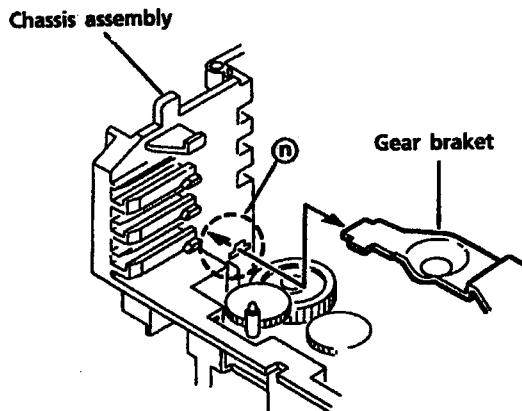

Fig. 38
3. Remove the gear bracket from the chassis ass'y's  $\textcircled{n}$  securing top of the gear bracket. (See Fig. 38.)